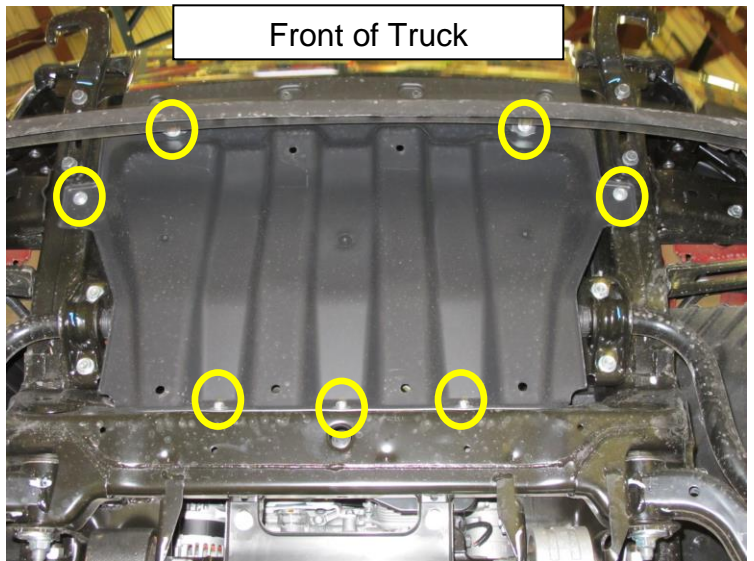

Figure 3
4. Remove the front under cover (Figure 3).
- Remove the (7) front under cover bolts.